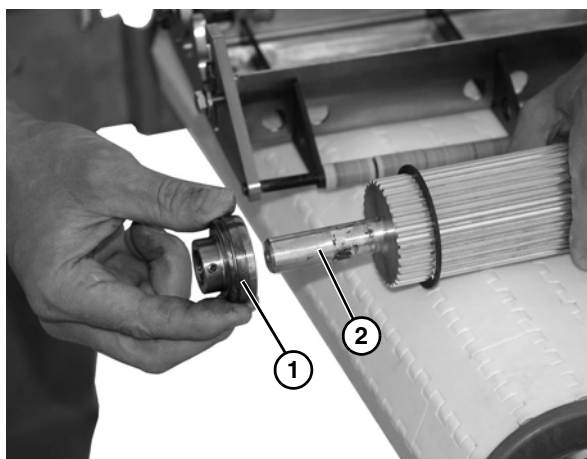

Figure 40
7. Remove bearing (**Figure 40, item 1**) from shaft (**Figure 40, item 2**).